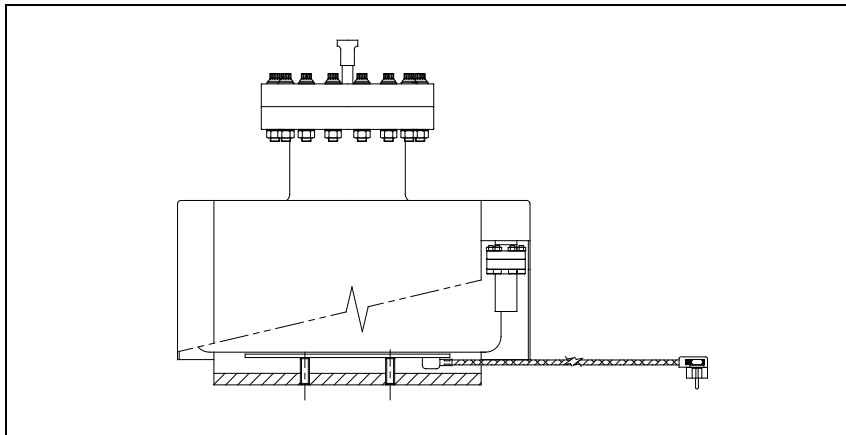

Figure 47 Heater mounted
- 2 Insert the heating element into the bottom of the pump in contact with the pump body and centered and fix it with the suitable screws (see Fig. 47).